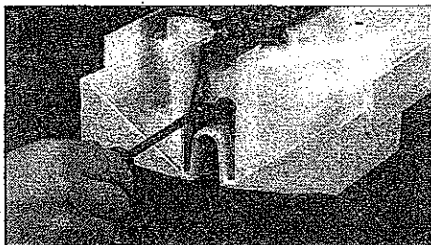

Figure 66
2. Remove the two (2) 6-32x3/8" Phillips pan-head screws for the transducer, and pull out the transducer and transducer cap from the front enclosure as illustrated in Figure 66.